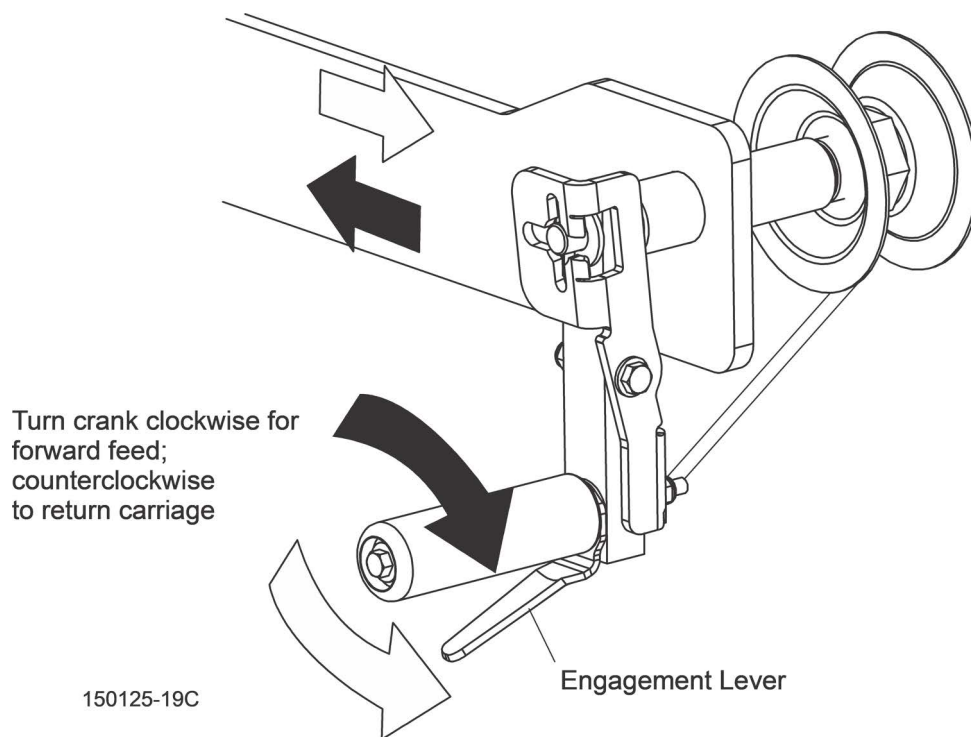

FIG. 6-6
1. Use the feed crank handle to move the saw carriage forward. See FIG. 6-6.